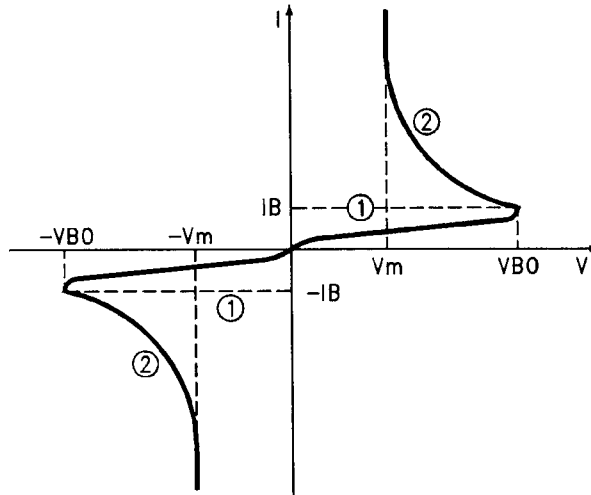

fig. B12.2
2. in a DIAC, conduction can be in both directions. These characteristics are shown in the voltage-current curve of figure B12.2.